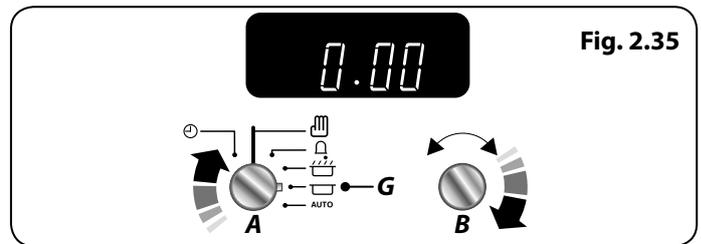

Fig. 2.35
1. Turn the **Timer (A)** knob to the **Stop Time (G)** setting (**Fig. 2.35**).
2. Turn the **Adjusting (B)** knob clockwise, the display will show the current time of day (**Fig. 2.35**).